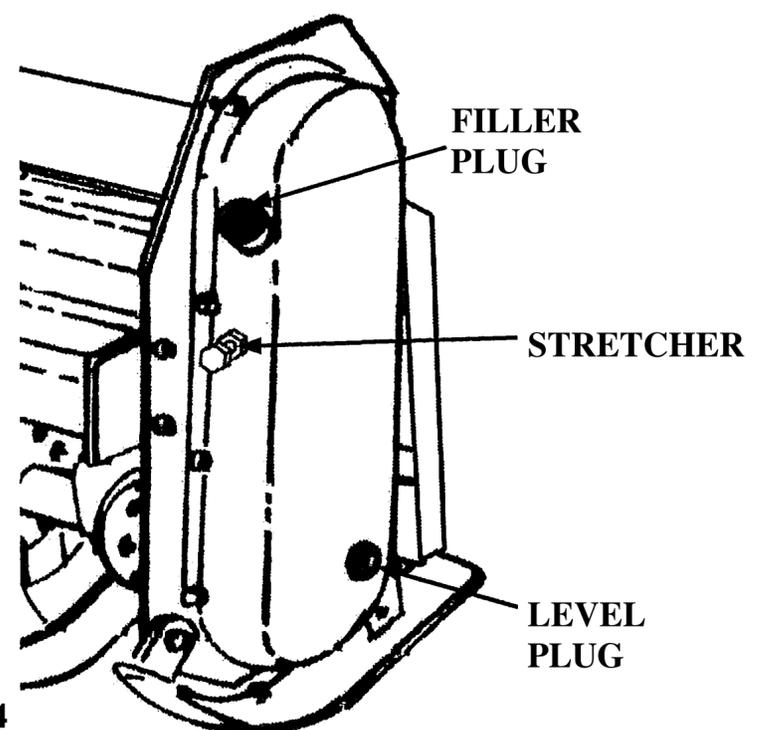

FIG. 4
- Check oil level in the chain drive by unscrewing the oil level plug (see fig. 4). If needed to add oil, unscrew the filler plug (see fig. 4) and fill in the cover until it starts running out the level hole.